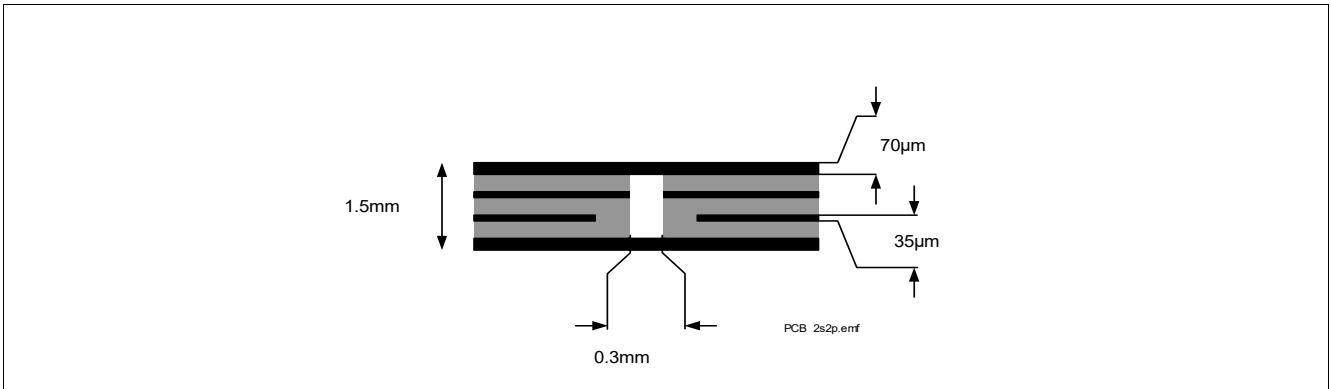

Figure 4 2s2p PCB Cross Section
2) Specified R_{thJA} value is according to JEDEC JESD51-2,-5,-7 at natural convection on FR4 2s2p board with 1 W power dissipation equally dissipated for both channels at $T_A=105^{\circ}\text{C}$; The product (chip + package) was simulated on a 76.4 x 114.3 x 1.5 mm board with 2 inner copper layers (2 x 70 μm Cu, 2 x 35 μm Cu). Where applicable, a thermal via array under the exposed pad contacts the first inner copper layer. Please refer to Figure 4.